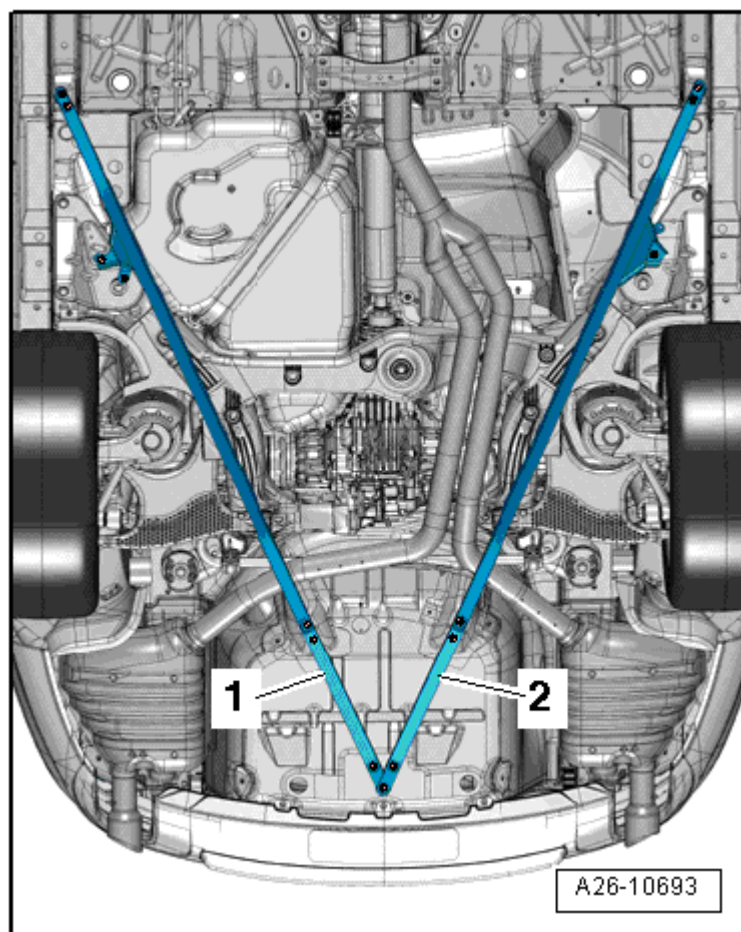

Fig. 10: Identifying Diagonal Braces In A5 Cabriolet
- To remove on the Audi A5 Cabriolet, remove the diagonal braces, refer to **Fig. 10**